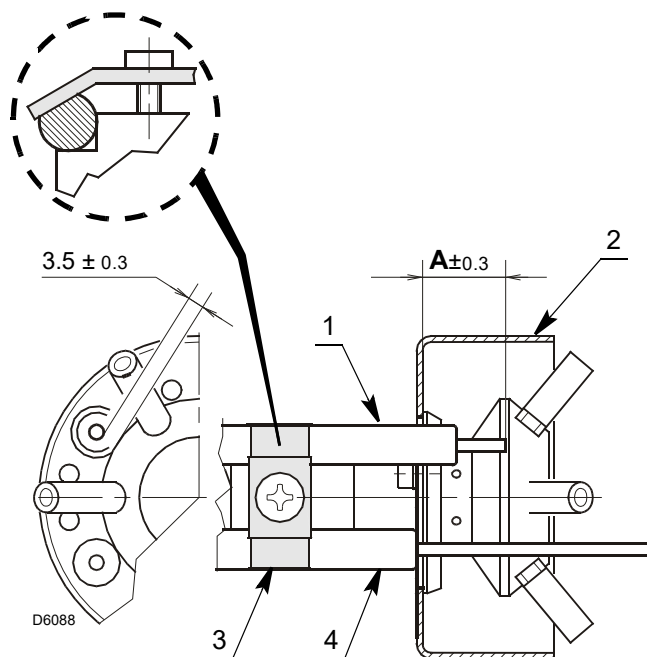

Fig. 15
- Make sure that the plate 3)(Fig. 15) is always inserted in the flattening of the electrode 1).